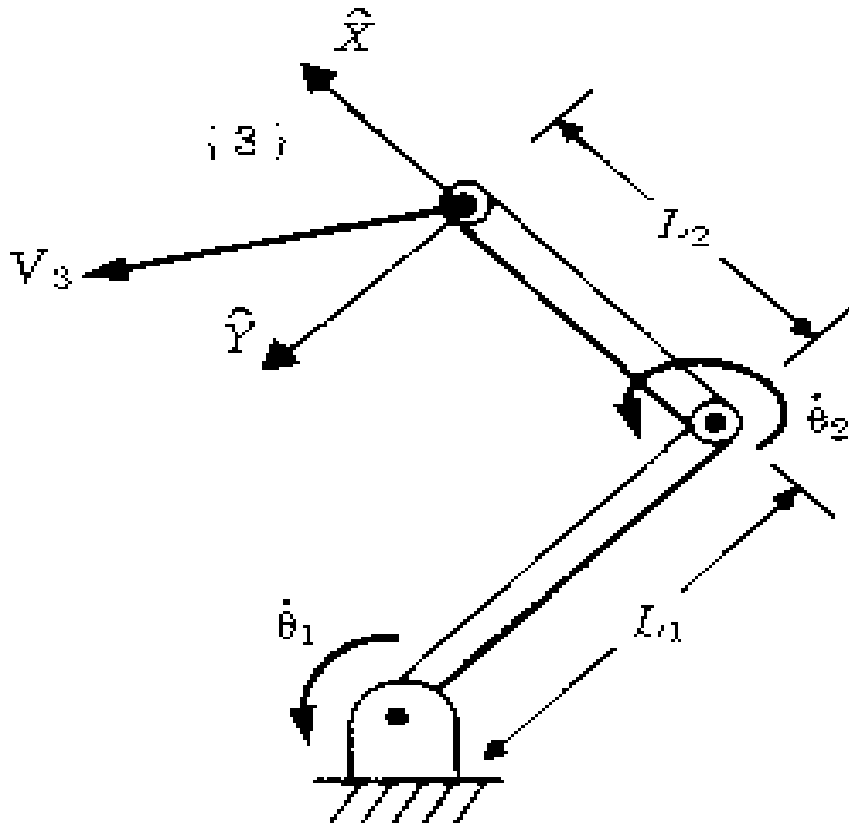

Figure Q3b
- b) Figure Q3b is a two-link manipulator with rotational joints. Determine the velocity of the tip of the arm as a function of the joint rates giving your answer in two forms